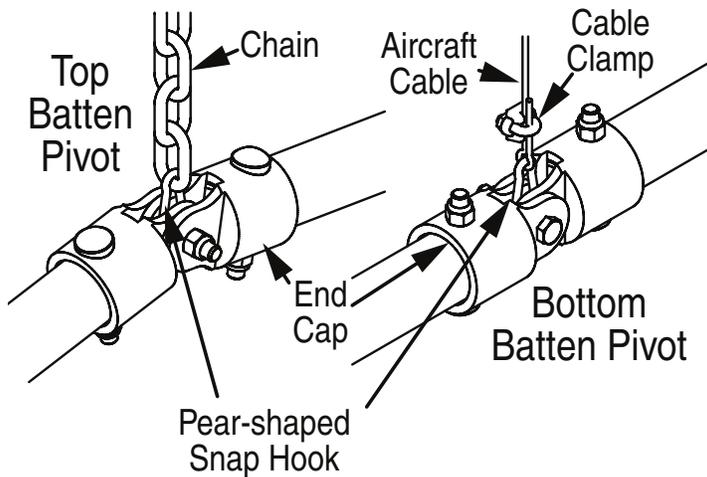

Figure 3
- ① Lay the curtain out with the top of the curtain close to the dangling aircraft cables.
- ② Slide 1⁵/₈" top and bottom batten tubes into pocket one section at a time, assembling as you go. Use 1³/₈" OD x 14" tube to connect section of batten tube. Splice should be installed so equal portions are inside tube that is being connected (see Fig. 3). Rotate batten to align the pre-drilled and tapped holes in batten. Secure with 5/16" x 1/4" set screws.
- ⑥ Thread cables through grommets in curtain.
- ⑦ Slide bottom batten into bottom pocket one section at a time, assembling as you go. SEE BATTEN LAYOUT SHOP DRAWING.
- ⑧ At pivot points, pass cable through pear-shaped snap hooks. At other attachment points, cut a **small** slit in the upper part of the pocket and wrap cable once around 1 5/8" bottom batten. Secure with cable clamps, and trim excess cable (see Fig. 3).